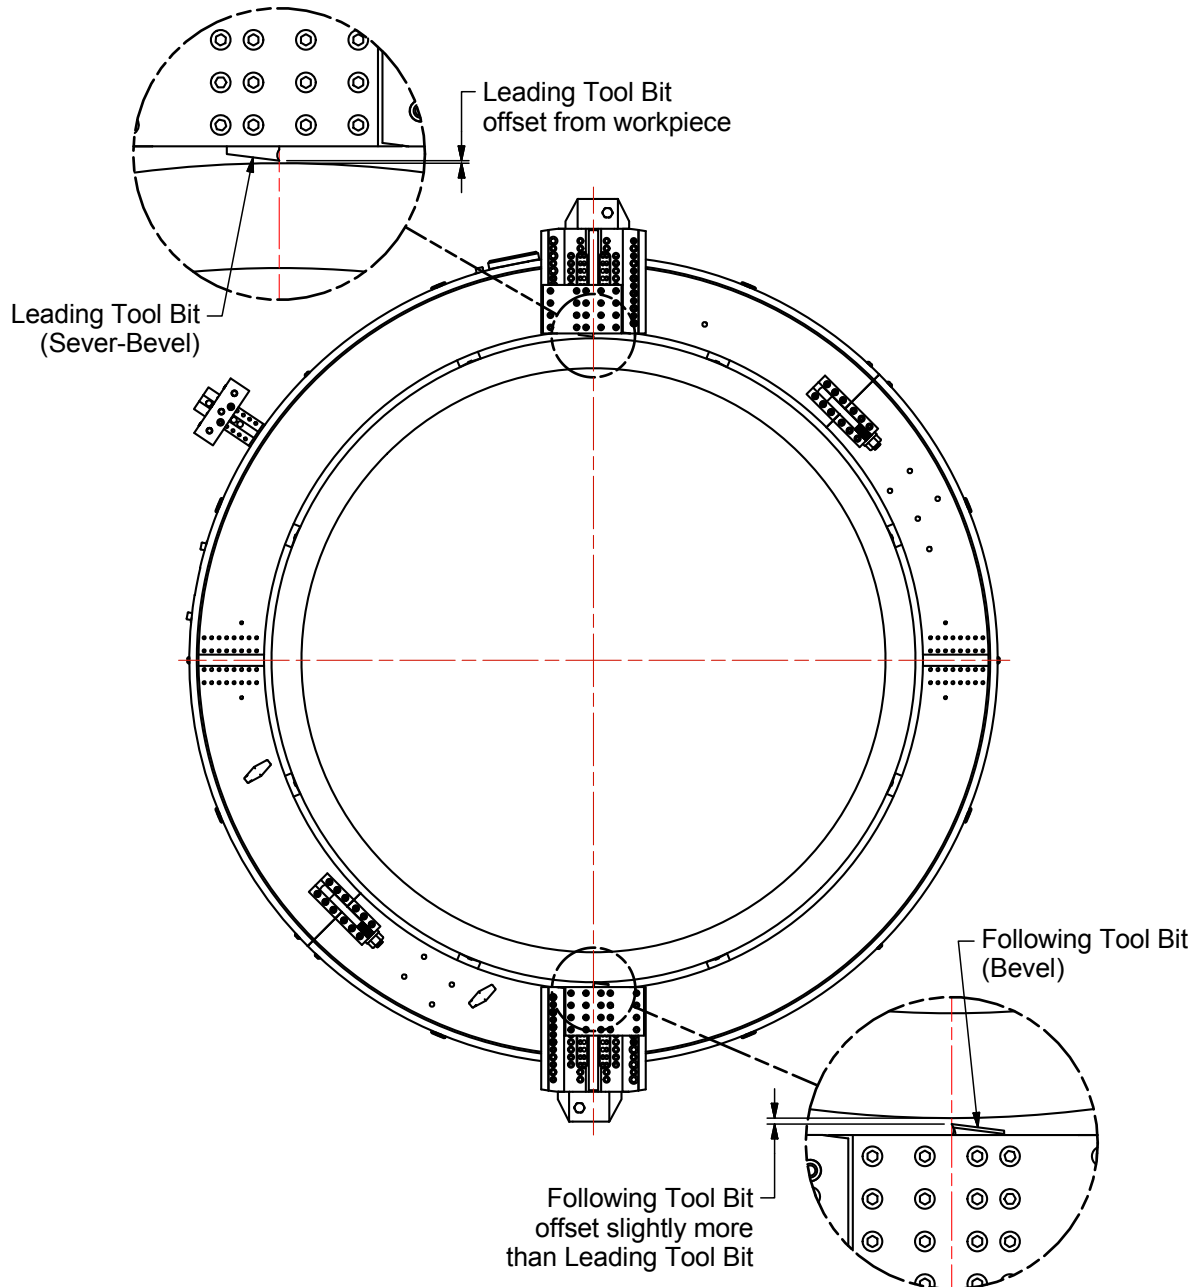

Figure 2-13 – Position Tool Bits
13. The tool bit cutting tip must lie on the centerline of the workpiece. Position each tool bit so that it touches the workpiece. Lightly tighten set screws on top of each tool block to hold the tool bits in position but allows some movement for finding the high-point on the work piece in the next step . See Figure 2-13.